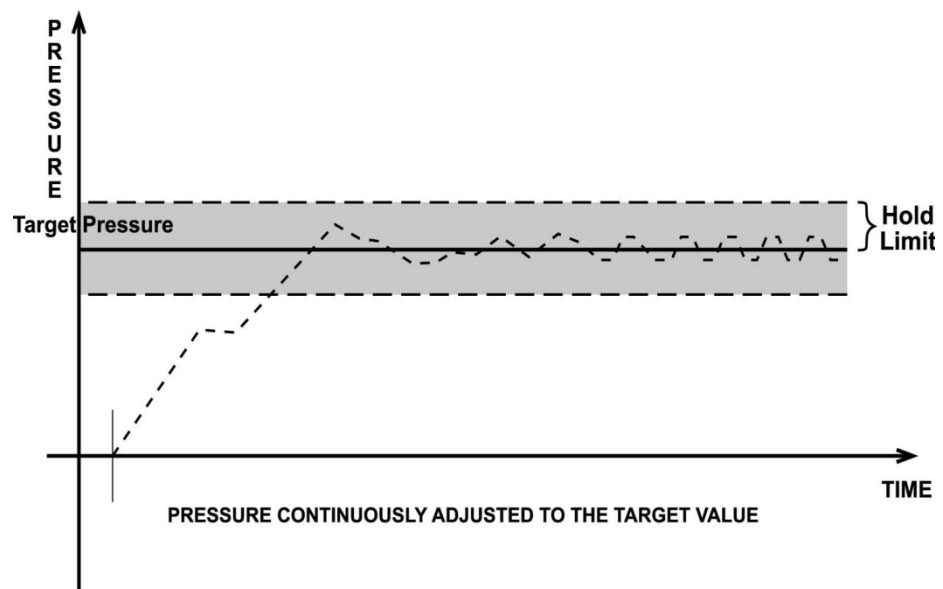

Figure 3. Dynamic Pressure Control Operation
**Dynamic control** mode is designed to set the pressure to the target value and control continuously to keep pressure within the hold limit and as close to the target value as possible (see Figure 3). The advantage of this control mode is that the final pressure achieved is the same as the target value. The maximum value of the control error is equal to the hold limit. The average value of the control error is typically much smaller than the hold limit.